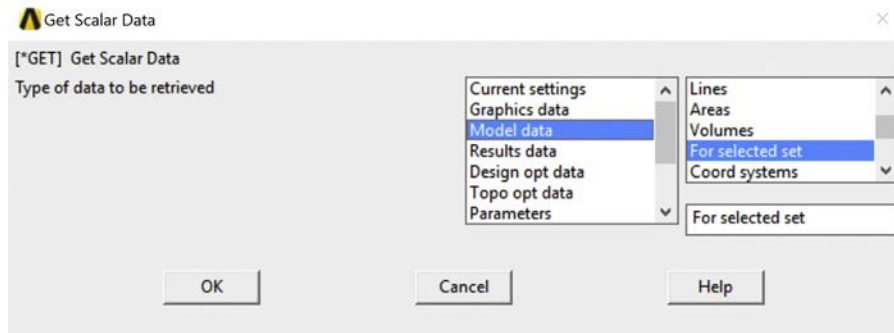

Figure 6-1-5 Get Scalar Data Dialog Box.
- In the left window, pick “Model data” (Figure 6-1-5)